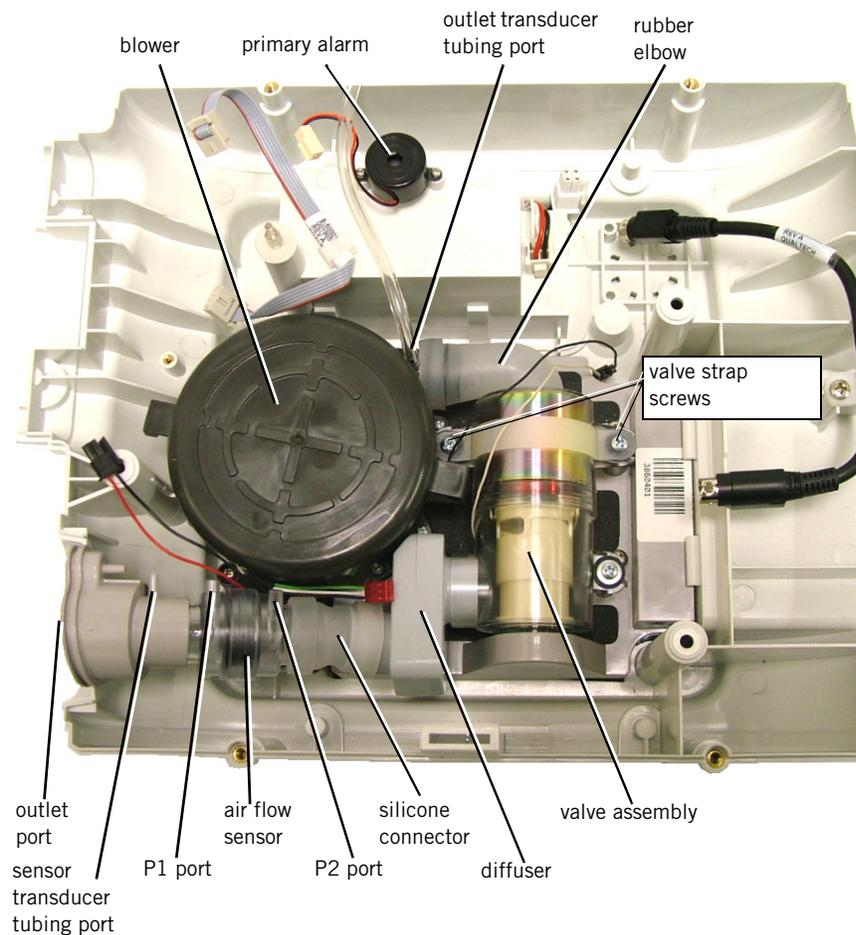

Figure 8-14: Valve Assembly and base layer components
Follow these steps to remove the valve assembly (Figure 8-14). Reverse to install.
Follow these steps to remove the Blower (Figure 8-14, Figure 8-15). Reverse to install.
Follow these steps to remove the secondary alarm (Figure 8-14, Figure 8-15). Reverse to install.
4. Do not disconnect the outlet port and flow sensor assembly from the diffuser. Move them out of the way. Refer to Figure 8-14.